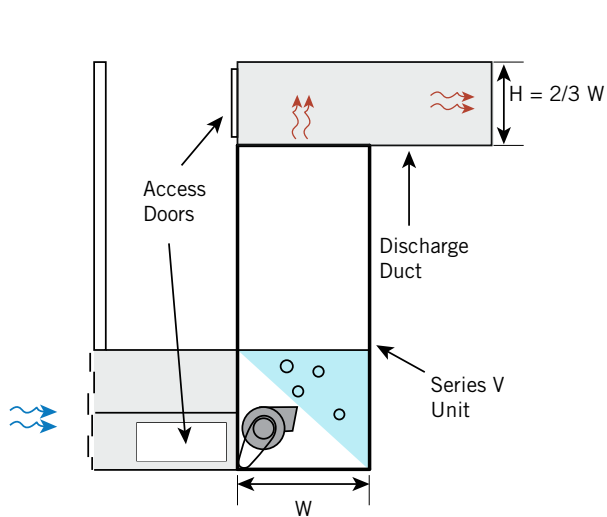

Figure 13a. Elevation Side View of Ducted Unit Enclosure
- i. Turns in intake or discharge ducts should be avoided. Where turns must be used, velocities should be minimized in the vicinity of the turn. Turns in discharge ducting should be designed in accordance with the "2/3's rule" shown in Figure 13a and 13b.